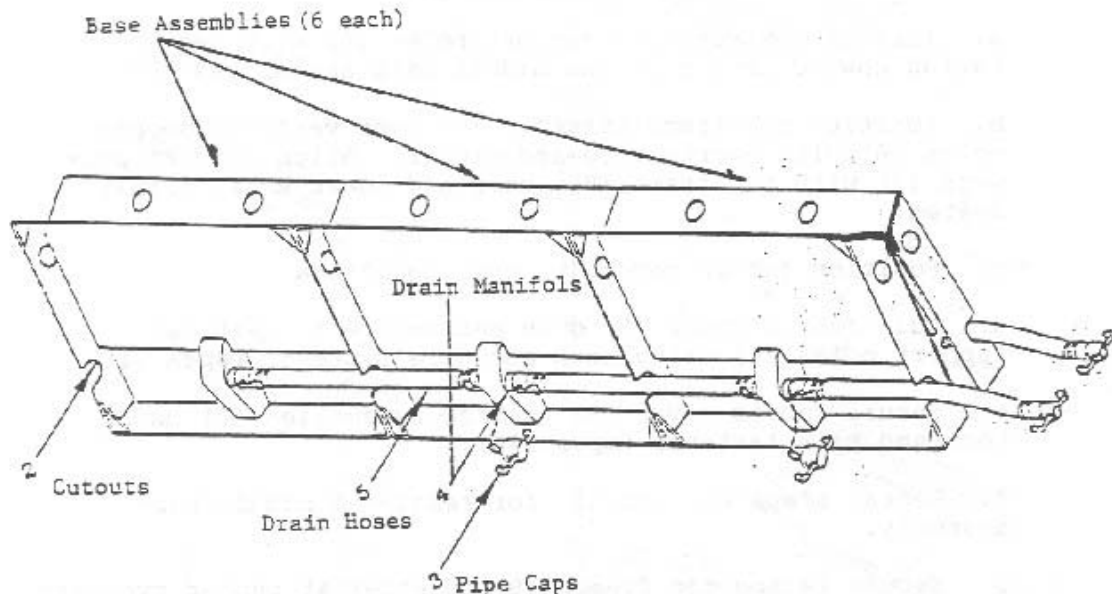

Figure 3-11
- b. Remove all six shower fabric covers (9), by unfasten the cover hook and fastener tape (10) from the top frame assemblies (6) and shower base assemblies (1).
- c. Remove the six shower top frame assemblies from over vertical support poles (5).
- e. Remove all floor covers (12).
- f. Clean each shower top frame assemblies (6), fabric covers (9), floor cover (10) and vertical support poles (5) with soapy water, rinse and wipe dry with a clean cloth.
6. Disassemble the shower base assemblies. (See Figure 3-11)